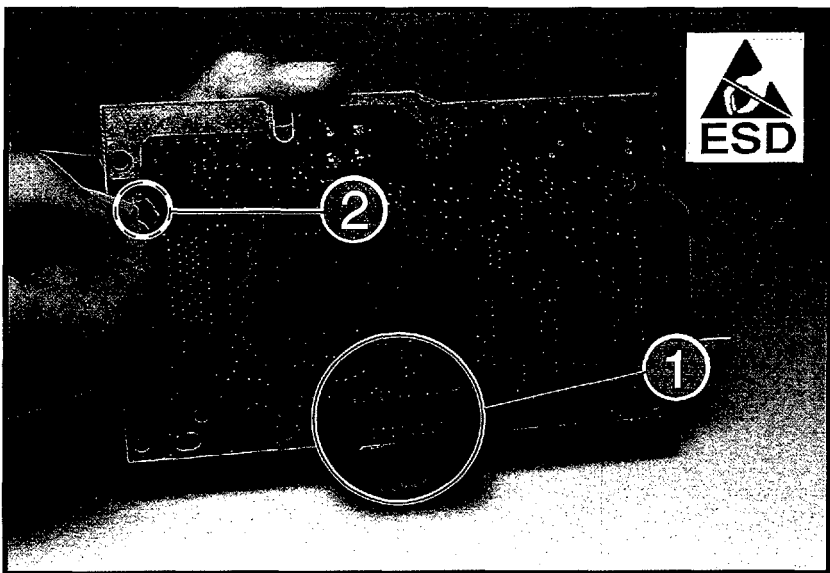

Figure 6-14 DC Controller Connector & Switch Actuator (LaserJet 4L shown)
5. To remove the connector extension, squeeze the tabs on either side and pull the Extension straight out the rear of the PCA (Figure 6-14, callout 1).
6. *LaserJet 4L/4ML*: Squeeze the tabs on the Switch Actuator and pull it straight out from the back side of the Formatter PCA (Figure 6-14, callout 2).